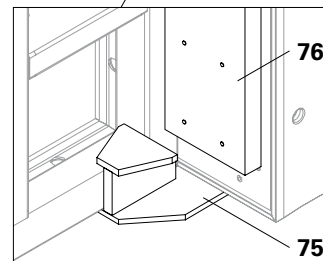

Fig. A9.06a
1. Place two panels (10) at right angles to each other on the ground in a Foundation Strap (75).
2. Nail locating board (76) to formlining
3. Place the Foundation Strap (75) on the edge of the panel on the protruding panel.
- (Fig. A9.06a)
Are the Foundation Straps lying flat on the panels - 4x above and 4x bottom? (Fig. A9.06a)